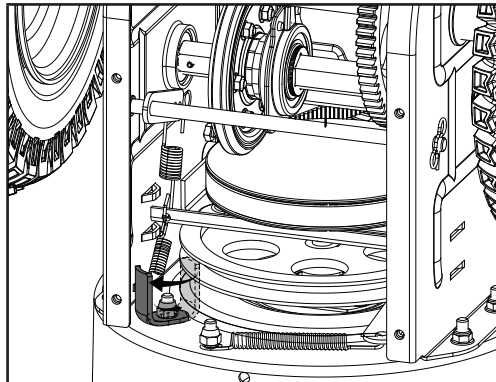

Figure 26A
- Slip the new auger drive belt into the compartment from the bottom of the snowblower placing it around the bottom of the auger drive pulley and slipping it around the front pulley on the engine. Ensure the belt is positioned between the bottom belt guard and the bottom of the auger drive pulley. You may need to remove the bolt holding the lower belt guard in place to properly seat the belt into the pulley, replace the belt guard and bolt after installing the belt into the pulley (Fig. 26A/B).